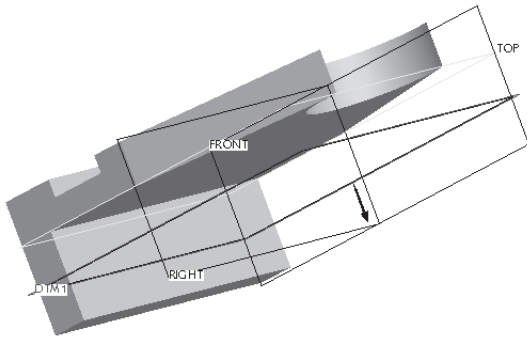

Figure 5-99 Direction of viewing the sketching plane
4. Choose the **Flip** button to reverse the direction of viewing the sketch. Now, the arrow points in the direction shown in Figure 5-99.